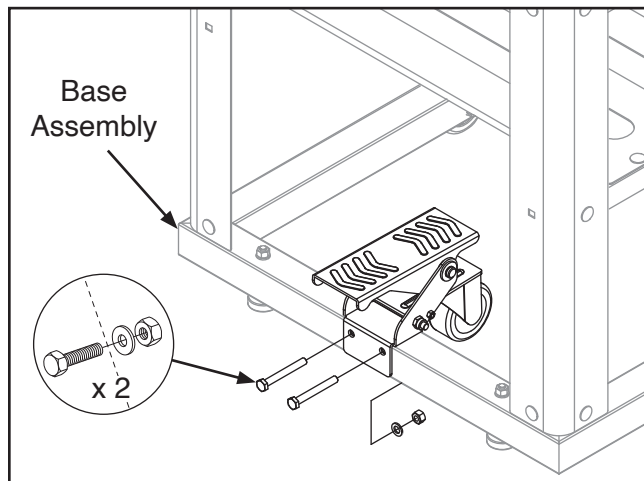

Figure 7. Foot pedal assembly installed.
10. Attach foot pedal assembly to base assembly with (2) M8-1.25 x 60 hex bolts, 8mm flat washers, and M8-1.25 hex nuts (see **Figure 7**).